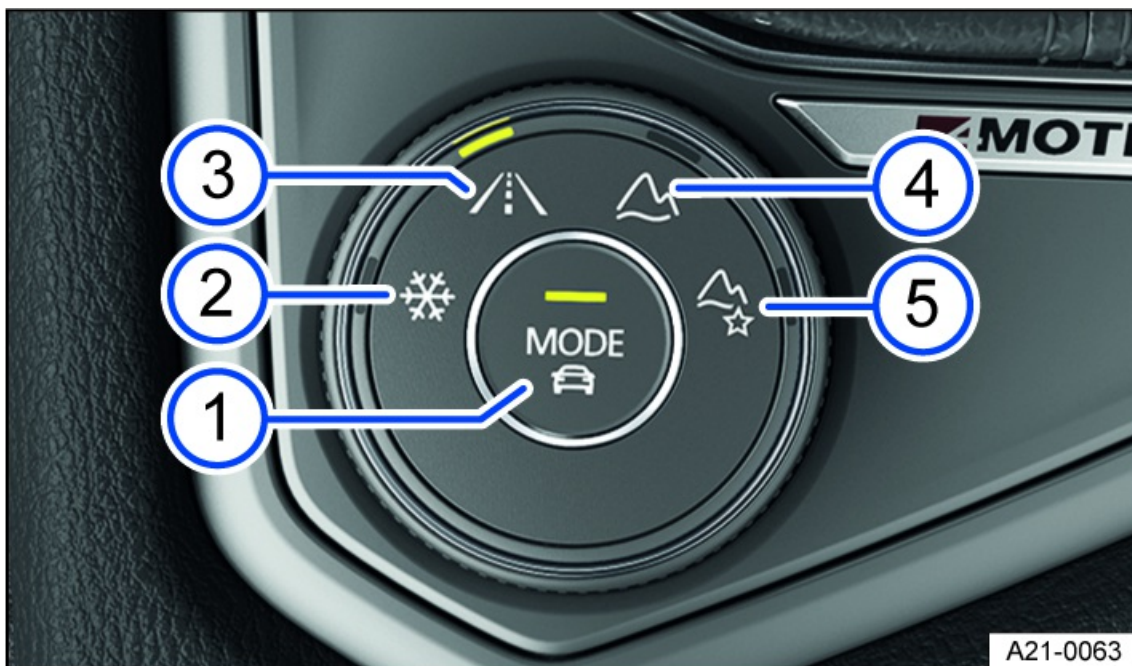

Fig. 126 In the center armrest: 4MOTION Active Control rotary switch.
- ① MODE button: select onroad driving modes and open the menu in the Infotainment system.
- ② Snow driving mode
- ③ Onroad driving mode
- ④ Offroad driving mode
- ⑤ Offroad Custom driving mode
1. Turn the dial until the LED next to the preferred driving mode comes on fig. 126.
2. To switch to the onroad driving modes, press the  button on the dial *fig. 126*  or tap **Onroad driving mode** in the Infotainment system.
Or: if the Offroad Custom driving mode is already selected, press  on the dial *fig. 126* .